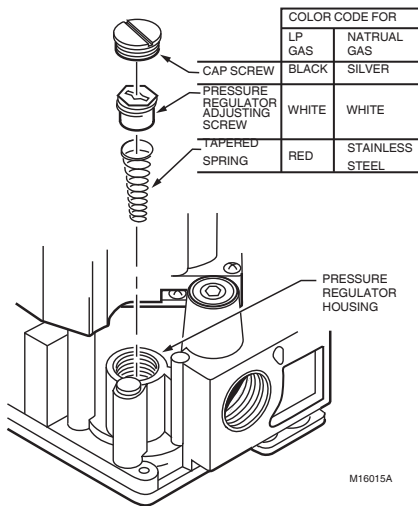

Fig. 2. Install conversion kit in regulated gas control.
4. Insert the replacement spring with the tapered end down. See Fig. 2.
If installing adapters on the gas control, mount them as shown in Fig.2: